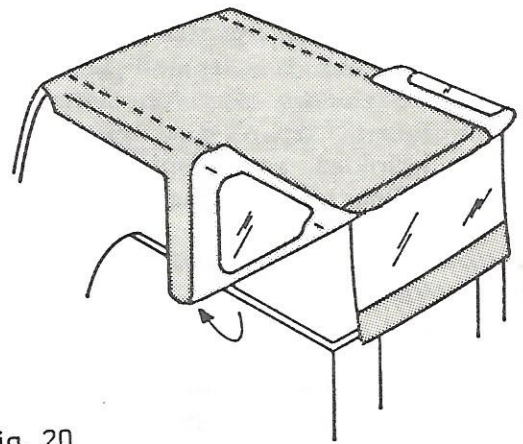

Fig. 20
2. Fold the side panel windows in half along the diagonal seam that separates the two window sections. See Figure 20.
1. Folding can be done on the vehicle or on a clean dry surface. Follow Figures 20 through 23 of the Fold Down Instructions, then fold the Top in half side to side. Lay the Vertical and Horizontal Rods in the bottom of the original carton. Place the Top fabric between the outside surface of the doors (metal side of door to the outside), then pick up the Top and doors as a unit and place them in the carton. Lay the two Bows on each side of the Top and close the carton. Store in a cool, dry area.